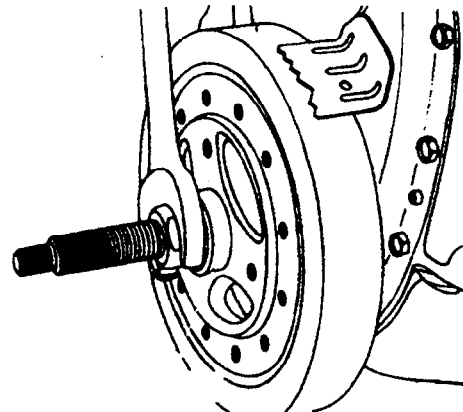

Figure 71 - Installing the Torsional Damper
2. Stud (item A., figure 71) to the crankshaft. Thread the stud fully into the tapped hole in the crankshaft.
4. Bearing, washer, and nut (figure 71).